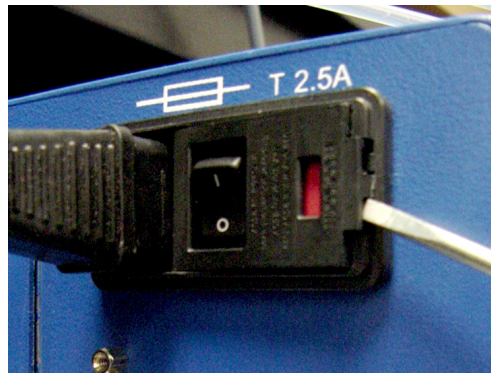

Figure 4-10. Loosening the Hinged Fuse Holder Cover
3. Loosen the hinged fuse holder cover by carefully prying in one of the notches on the right end of the cover with a small standard (flat blade) screwdriver. See Figure 4-10: